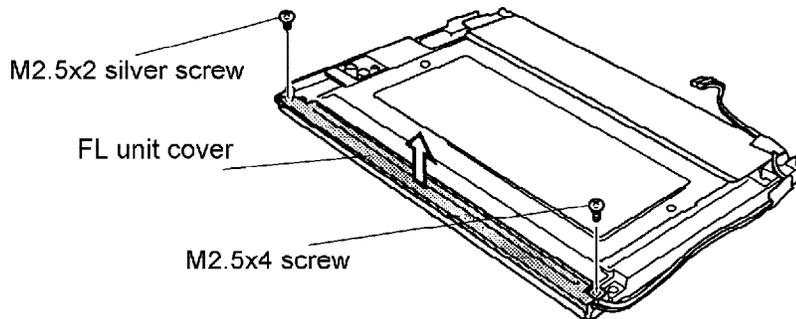

Figure 4-28 Removing the FL unit screws
To remove the 610CT fluorescent lamp (FL), follow the steps below and refer to figures 4-28 and 4-29.
To install the 610CT fluorescent lamp unit, follow the steps below and refer to figures 4-28 and 4-29.